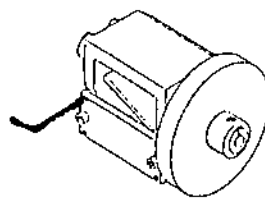

FIGURE 2
Step 4. Using a 1/16" hex wrench, insert the wrench through the top clearance hole in the stationary blade. Engage the #6-32 X 1/4" socket set screw. Please refer to Figure 2.